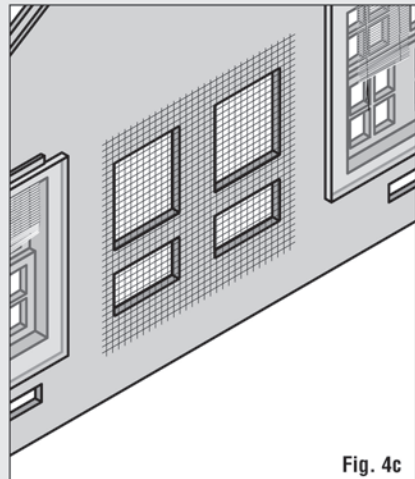

Fig. 4c
- Glue Door Screen into recess on backside of Front Door (**Fig. 4c**). Trim if necessary.